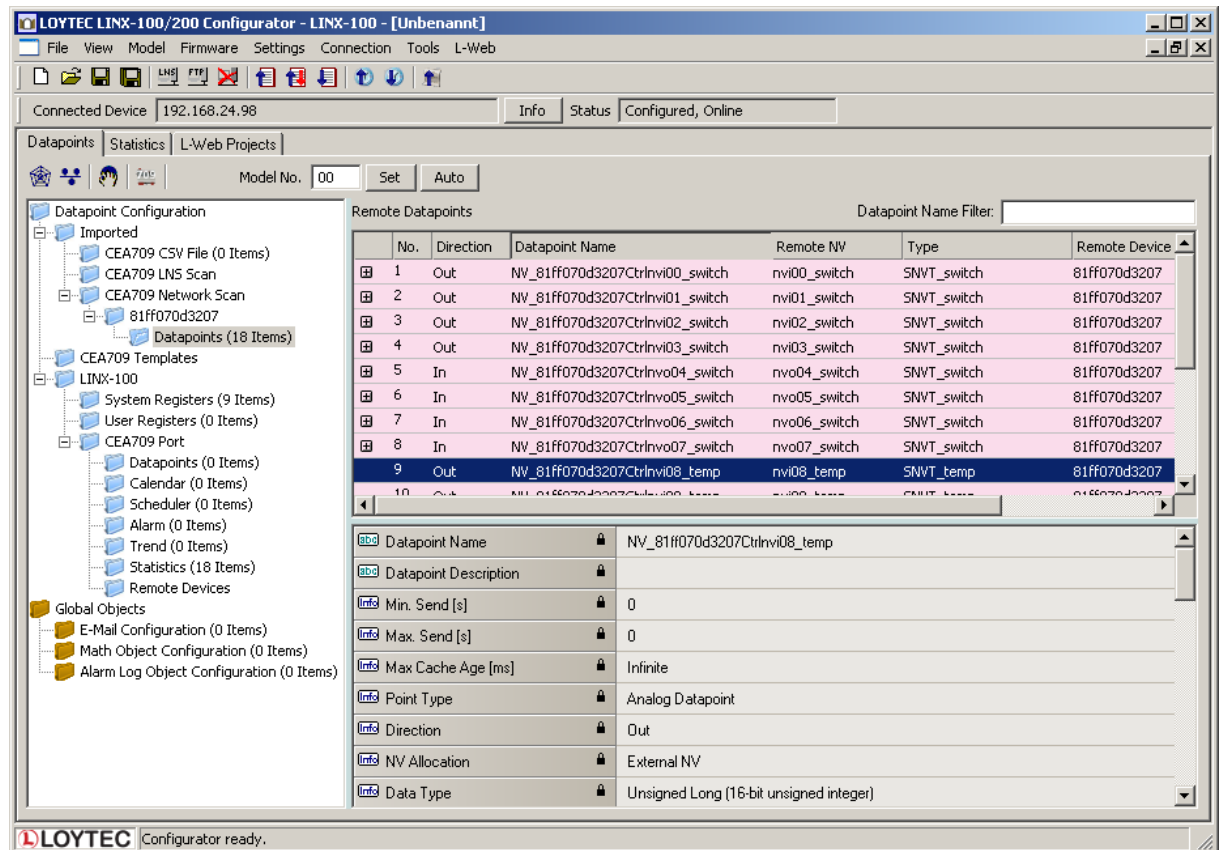

Figure 82: CEA-709 network scan results.
9. Then click the button **Scan**. This scans the NVs on the selected device and adds them to the CEA709/852 Network Scan folder as a separate sub-folder for the device as shown in Figure 82.